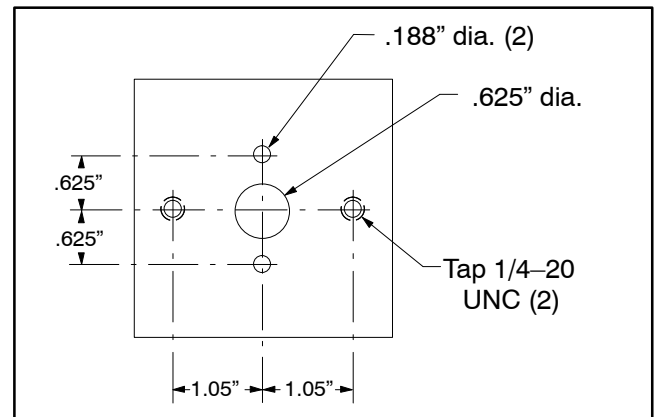

Figure 30
1. Using a 1/4 inch thick, 3" X 3" square piece of steel, make a seal removal tool as shown in Figure 30.